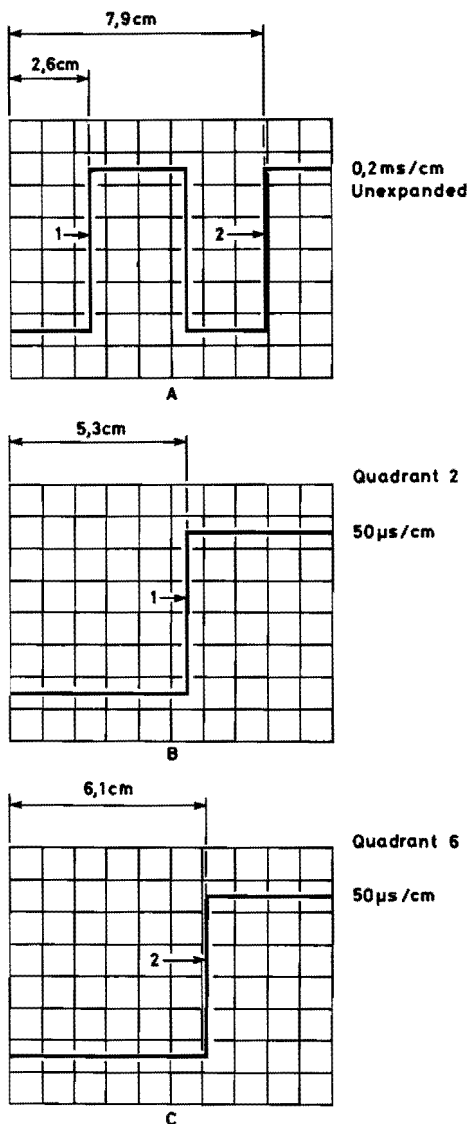

Fig. 3.4 Measurements by Quadrant Expansion
Obtain a display of a signal of slightly less than 1kHz as shown in Fig. 3.4 (a) with the TIME/CM set to 0.2msec/cm as indicated. Switching to quadrant expansion will change the display to 50µsec/cm as indicated by the green cursor on the TIME/CM Switch skirt. Note that in the example shown in Fig. Y, the first positive edge (1) is viewable on the second and third quadrants due to the overlap between quadrants. Similarly the second positive edge is viewable on quadrants 6 and 7.
Quadrant expansion, as well as allowing more detailed examination of waveforms, also allows increased accuracy of time measurements. In the example of Fig. 3.4 the position of edge (1) is measured on quadrant 2, then without touching the shift control, the display select switch is moved to quadrant 6 and the position of edge 2 measured.
The table of Fig. 3.1 states that all points on quadrant 2 are offset from quadrant 1 by 5.12cm. The position of edge 1 is thus 10.42cm (5.12 + 5.30) relative. Similarly the position of edge 2 is 25.60 + 6.10 = 31.70cm relative. The period of the waveform is thus 21.28cm at 50µsec/cm i.e. 1.06(4)msec. This measurement may be confirmed from Fig. 3.4 (a).